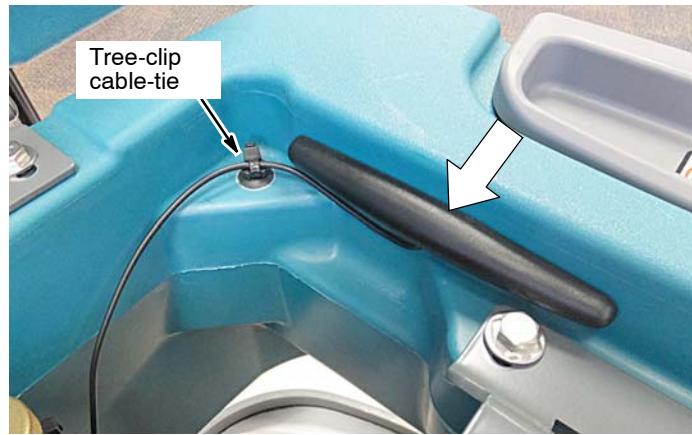

Fig. 16
12. Adhere the telemetry antenna to the machine as shown (Figure 16). Secure the antenna wire with a tree-clip cable- tie [1210807] as shown.